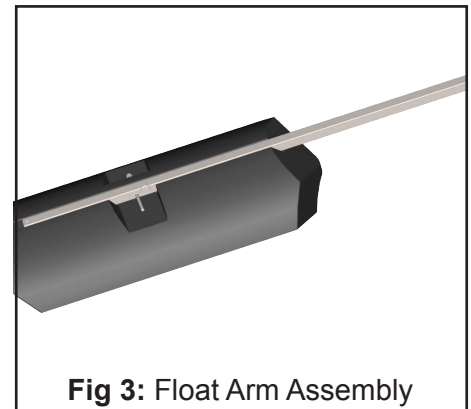

Fig 3: Float Arm Assembly
STEP 2: Attach the Floats to the Float Arms. (See **Figure 3**)